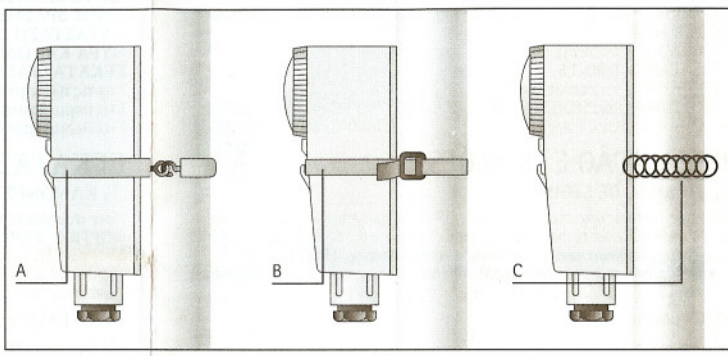

fig.4 - εικ.4
- Disjoin the adjusting knob (when present) and then release the relevant fixing screw. Remove the front cover. Thread the power supply wires in the provided fairlead and connect them to the appliance terminals (fig.4) according to the instructions of the following paragraph "Wiring Connections". Snap the front cover back, tighten it by means of the provided screw and then fit the knob in its proper seat (if applicable).